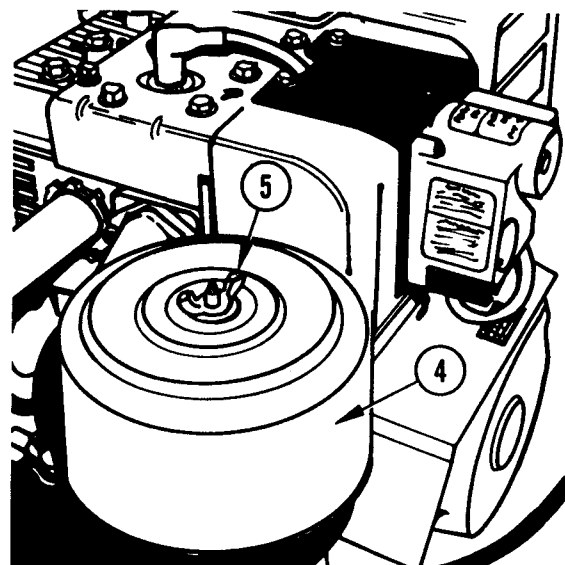

FIGURE 69
9. Install Air Cleaner Cover (4) on top of the Air Cleaner Filter Element and secure with Wingnut (5) provided with Air Cleaner Kit. See Figure 69. Install Decal provided with Kit on Air Cleaner Cover. This completes the installation of the Air Cleaner Kit. Reverse the procedure for converting to winter use.